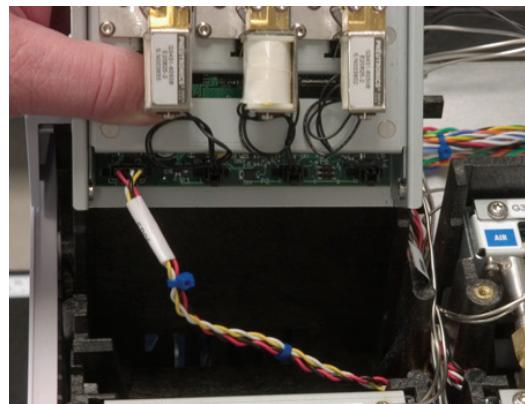

Figure 3.8. Installing the EPC module
4. Slide the module into the vertical slot tracks. Arrange the cable to prevent it from being pinched by the EPC module (refer to Figure 3.8).